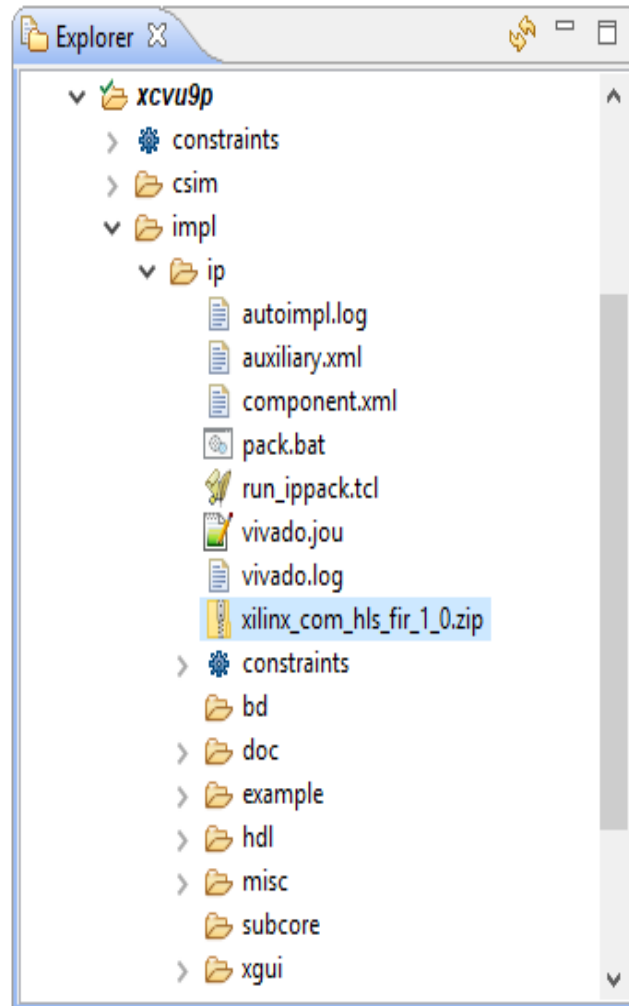

Figure 2-15: RTL Verification Results
6. Expand the `ip` folder and find the IP packaged as a zip file, ready for adding to the Vivado IP Catalog (Figure 2-15).